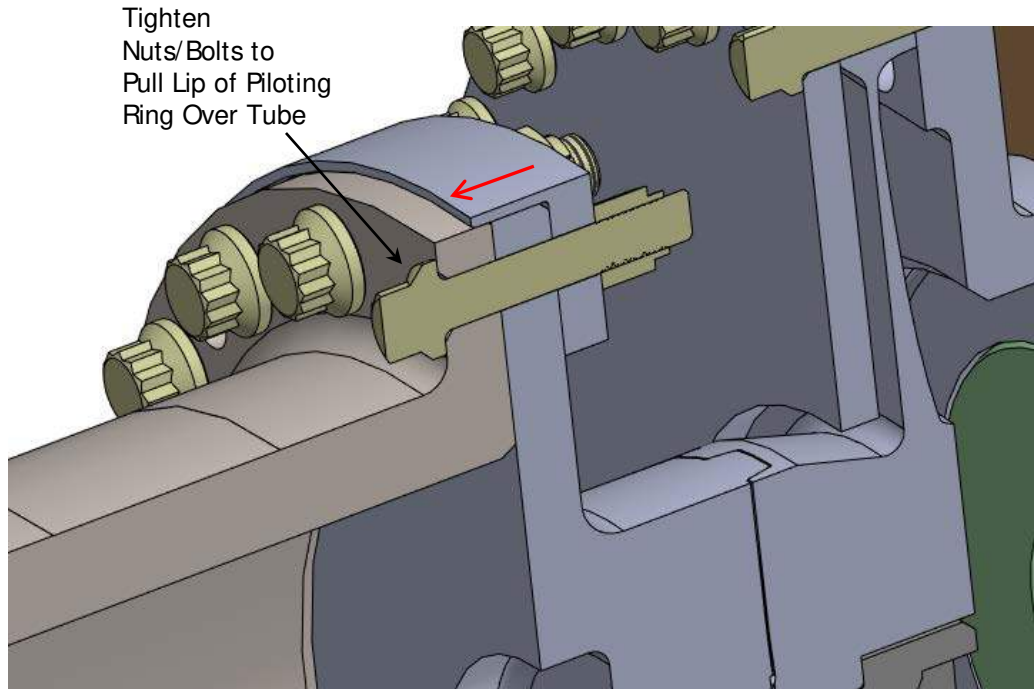

Figure 13 – Piloting Ring Fit Over Tube OD
4.2.3 While supporting the weight of the tube, tighten the bolts/nuts a few turns at a time in a criss-cross pattern to draw the piloting ring over the tube flange evenly (see Figure 13). Install the remaining bolts and nuts and torque evenly in a criss-cross pattern to the torque shown on drawing HC-10326.